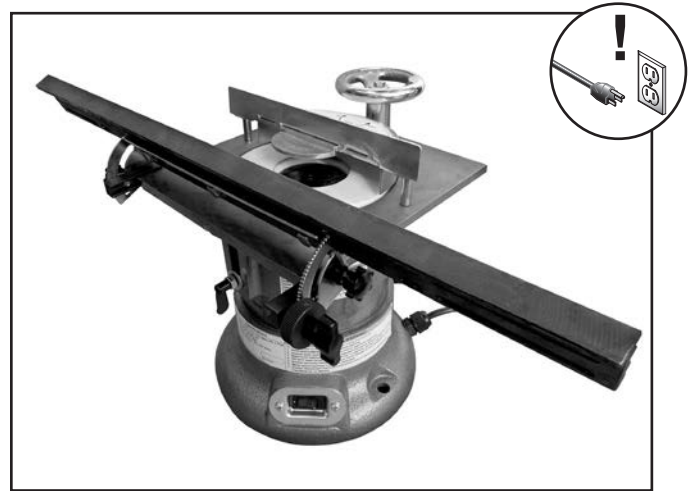

Figure 18. Pivot support and slide table assembly properly attached to the grinder.
- Re-attach the pivot support to the grinder table so that the flat surface of the slide table is facing the wheel, as shown in **Figure 18**.